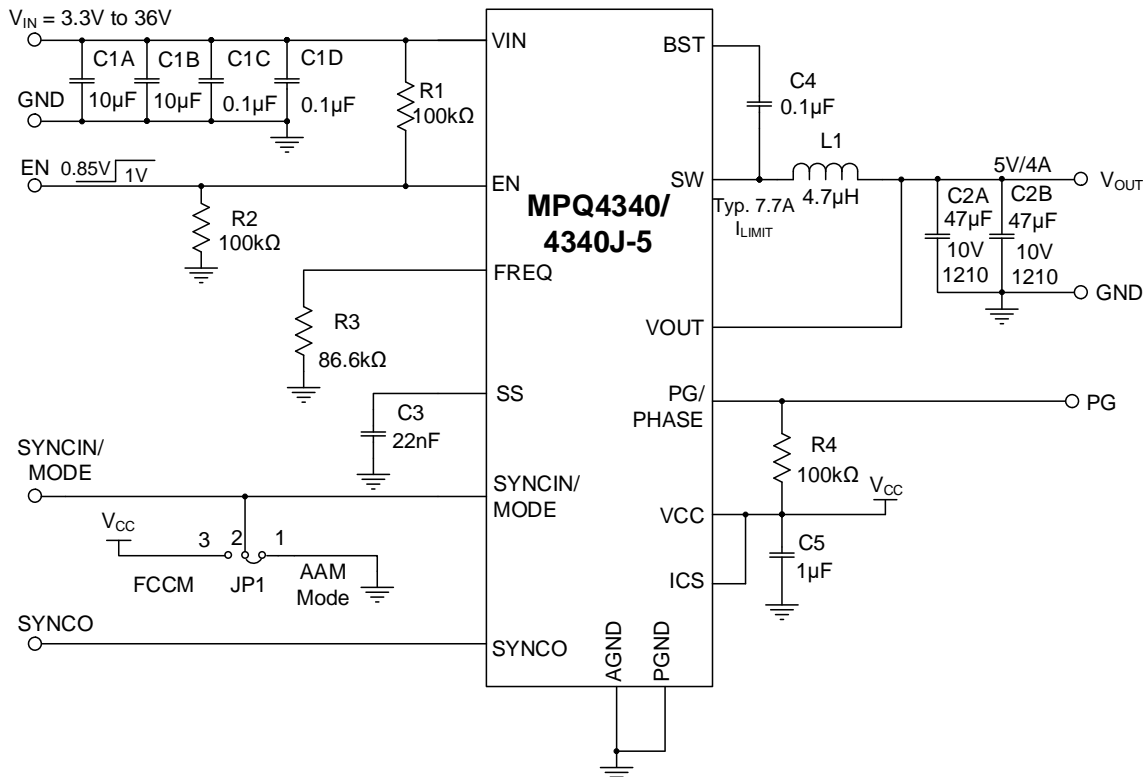

Figure 12: Typical Application Circuit (1-Phase, $V_{OUT} = 5V$, $f_{SW} = 410kHz$)
12) The recommended PCB layout is based on Figure 12 on page 50.